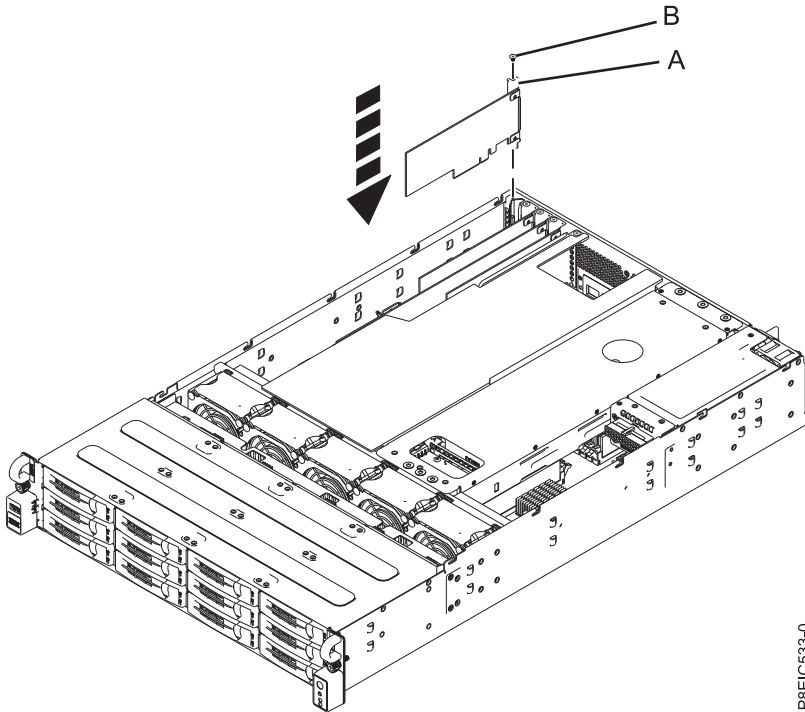

Figure 53. Installing the PCIe adapter (A) and screw (B)
5. Insert the retaining screw (**B**) and tighten it to secure the PCIe adapter in the system, as shown in Figure 53 on page 46.